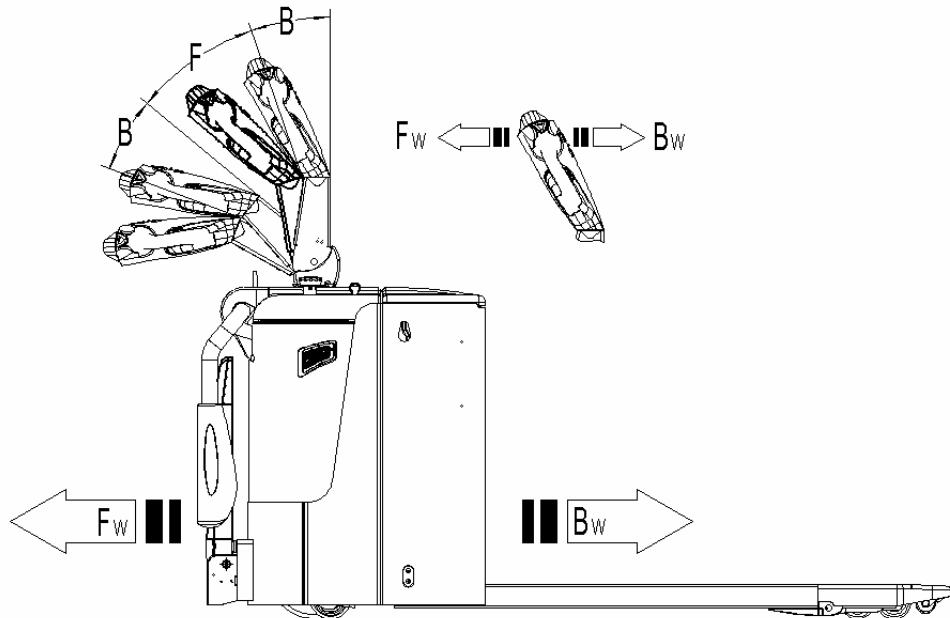

Fig. 9: Operating direction
After starting the truck by turning on the key switch (10), move the tiller to the operating zone ('F', fig.9). Turn the accelerator button to the desired direction forward 'Fw.' or backwards Bw.'(fig. 9).